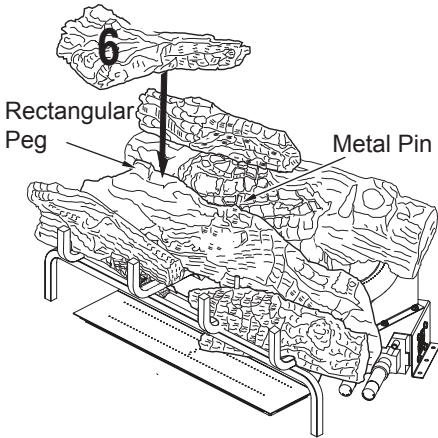

Figure 49 - Installing Log # 6
6. Place the left top forked log (#6) on the top of the middle log (#2). Match the rectangular projection on top of the middle log (#2) with the rectangular hole on the bottom of the left top forked log (#6). Match the metal pin on the top of the middle log (#2) with the round hole in the bottom of the left top forked log (#6). See Figure 49, page 24.